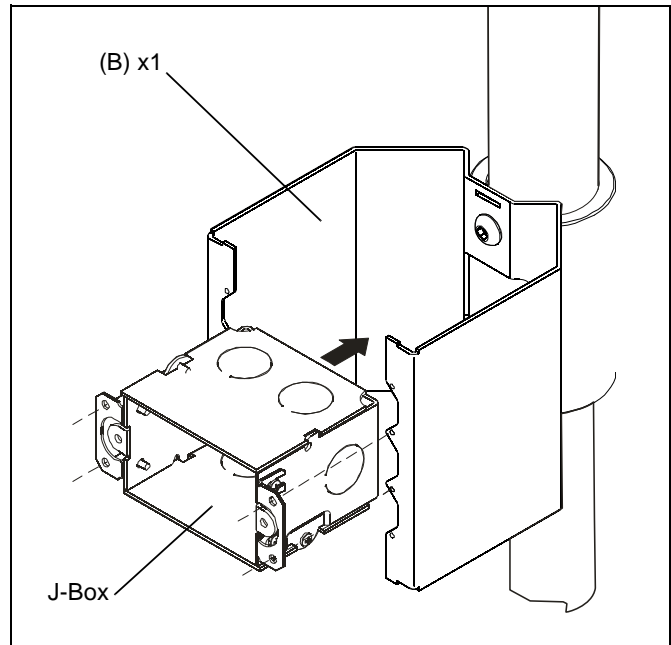

Figure 3
3. Orient J-Box as shown below and remove knockout from back side. (See Figure 3)
4. Slide J-Box into mounting plate (B). (See Figure 3)